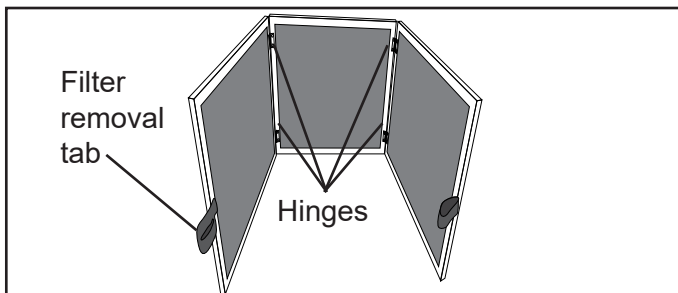
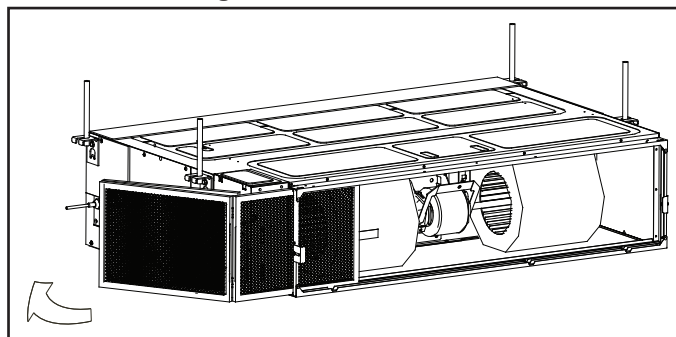

Figure 5. Foldable Factory-Supplied Return Air Filter
Figure 9. Filter Partially Removed
6. If the unit is being installed in an application that includes a sheet rock (plasterboard) ceiling, it is required that an access panel be installed in a suitable location. This will also allow access for future maintenance (requirement of Lennox warranty program). Access is required during the commissioning process to test the condensate disposal system (See figures 9, 10 and 11), to check the electronic expansion valve and associated flare nuts (See figure 5), and to check the local disconnect.